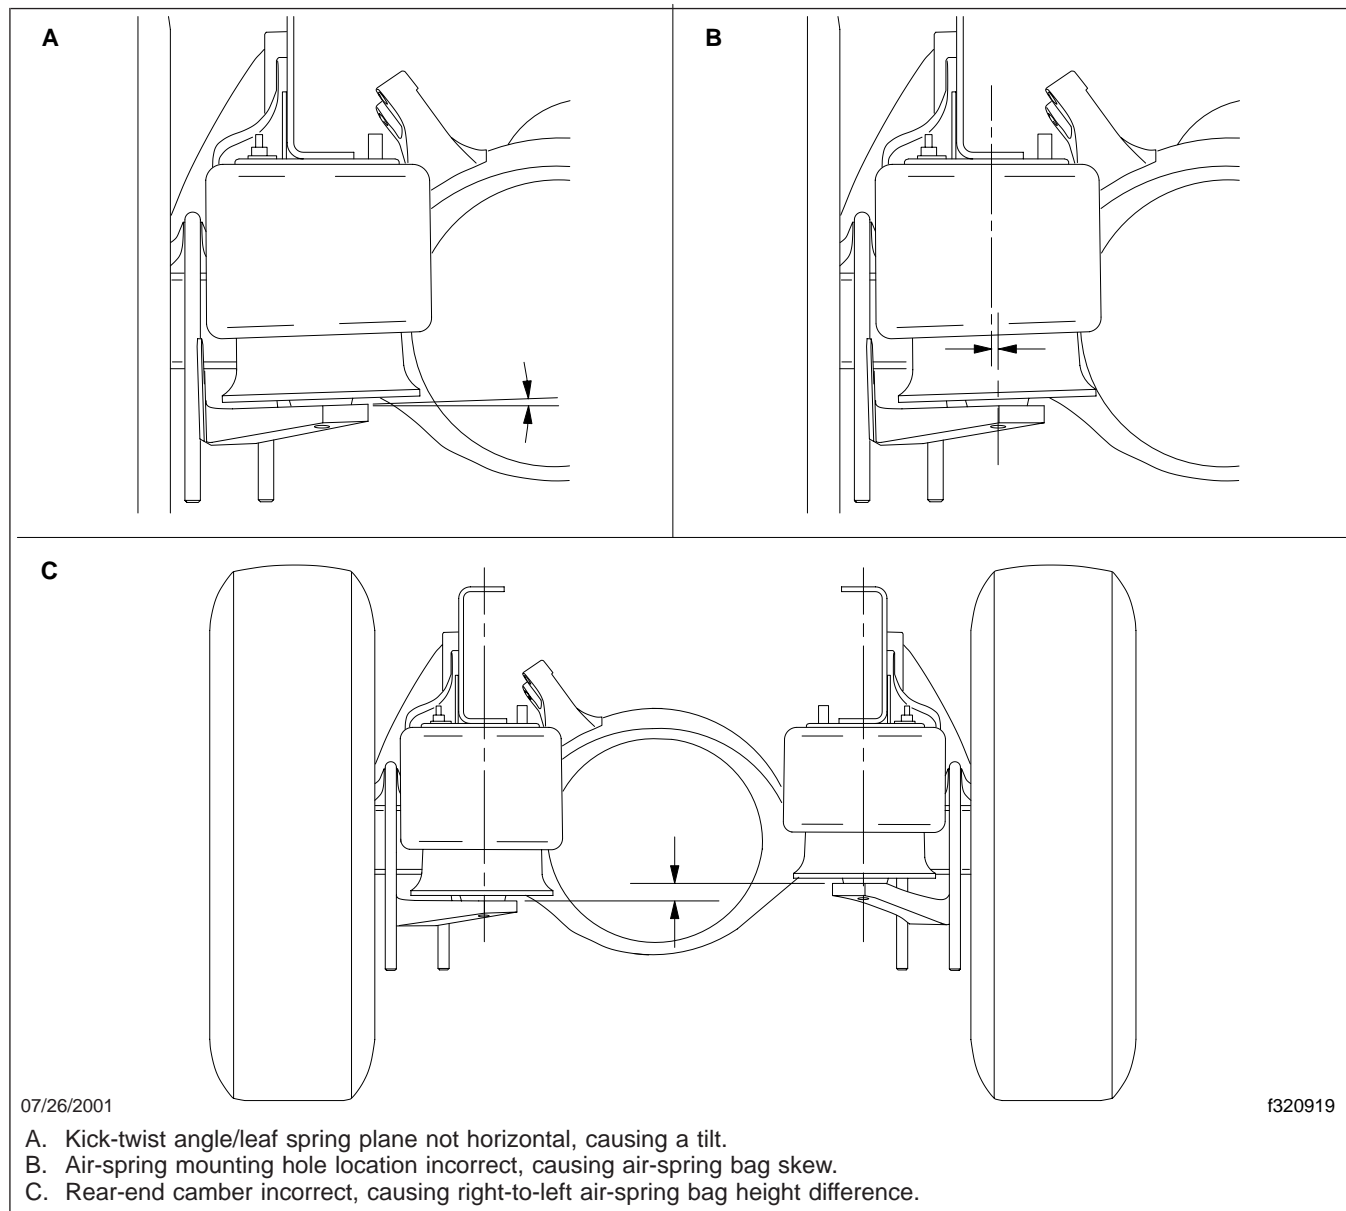

Fig. 7, Most Common Airbag Misalignment Complaints
- If the air-spring bag still appears to be out of alignment after completing the steps in "General Troubleshooting," determine the nature of the misalignment. See Fig. 7.